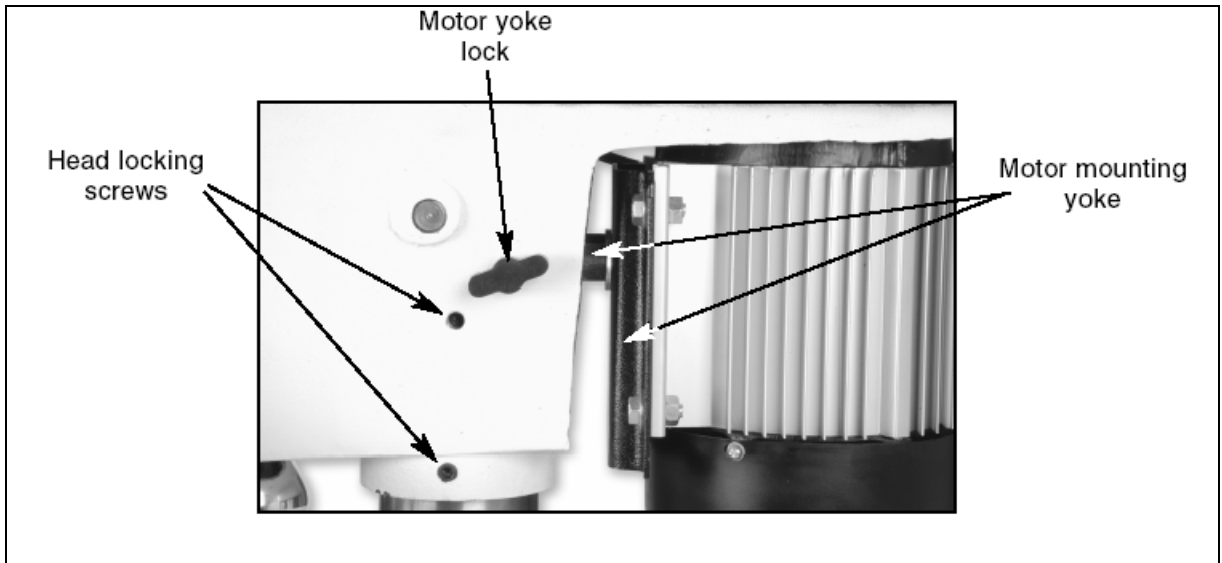

Figure 7
- Tighten the two head Locking screws shown in **Figure 7** to secure headstock to the